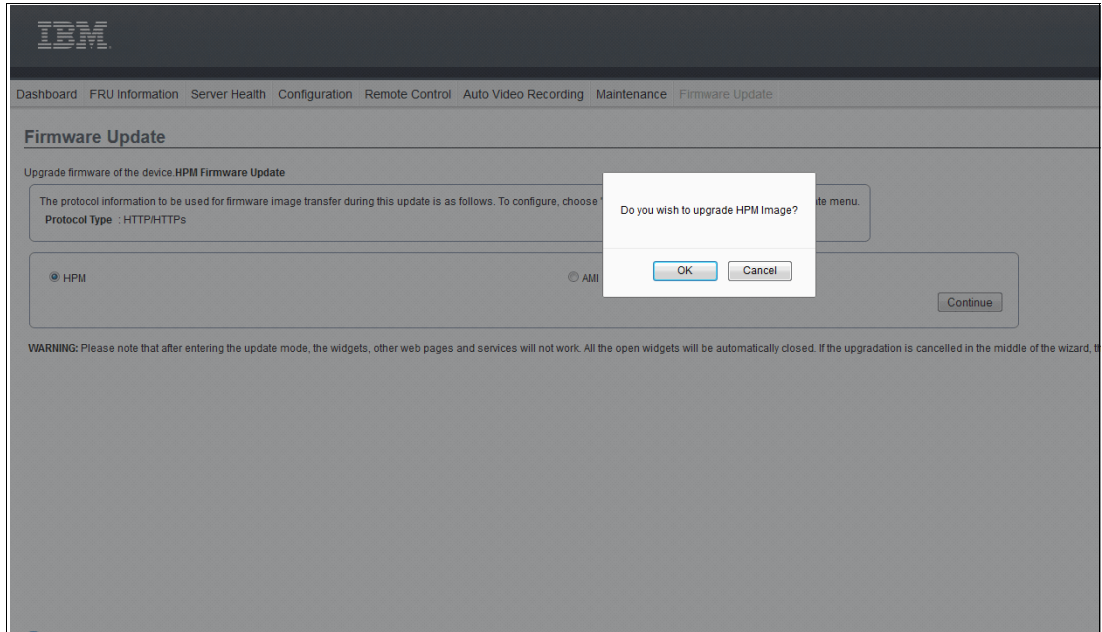

Figure 3-5 Confirm your update selection
4. Confirm that you want to update the HPM image by clicking **OK**, as shown in Figure 3-5 on page 59.